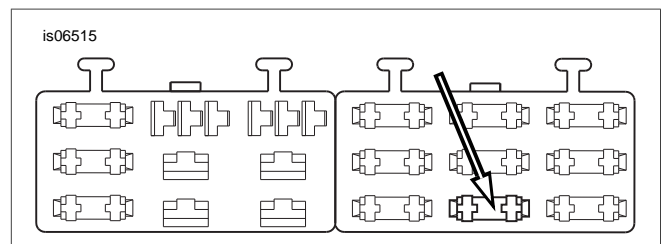

Figure 9. "OPEN" Fuse Block Cavity (2004 and Later Dyna)
4. See Figure 9. Locate the fuse cavity (1) indicated as "OPEN" on the fuse block cover in the right fuse block. There should be a wire feeding one side of this circuit, but no mating wire or fuse will be present.